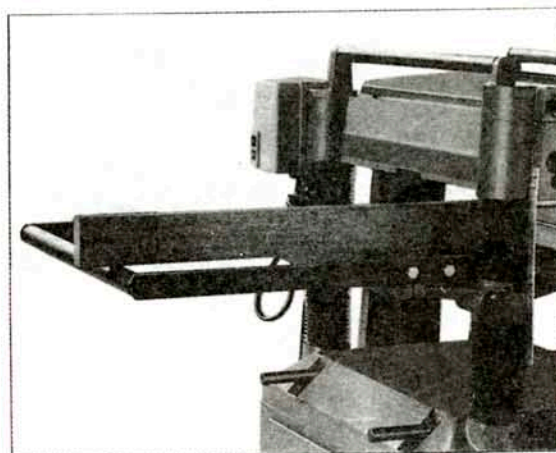

Fig. 16
The table extension rollers can be mounted to the table for regular position using the Hex. Hd. screws (A) and washers supplied as shown in Fig. 16
Place a straight edge between the roller and the table, as shown in Fig. 16 to check the table extension roller and the table are at the same height.